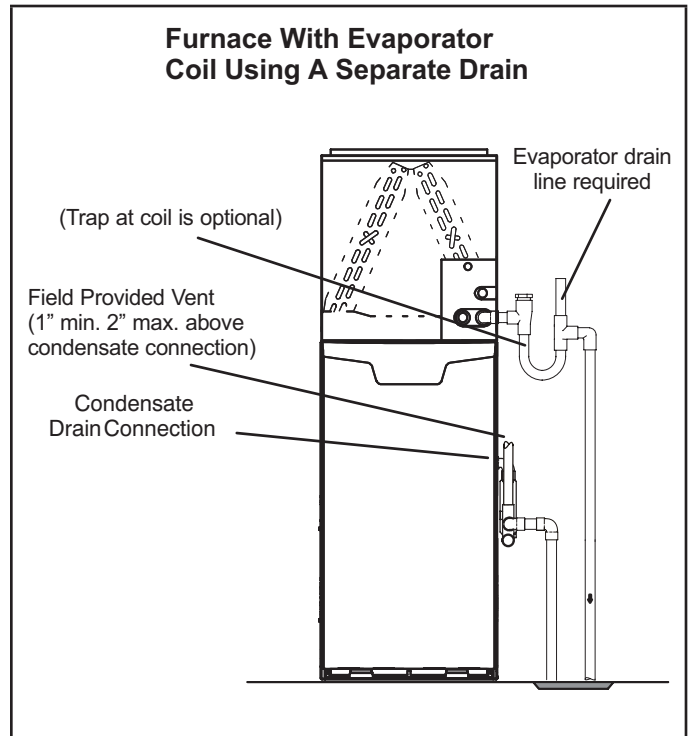
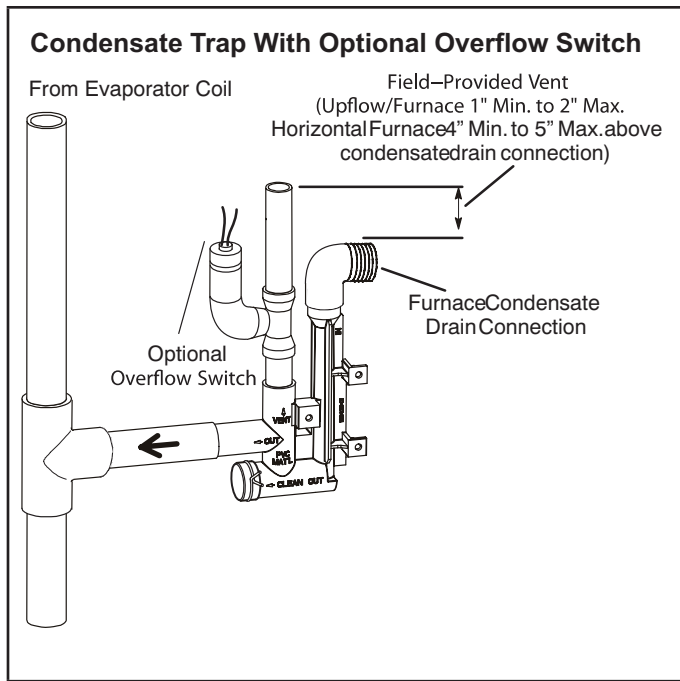
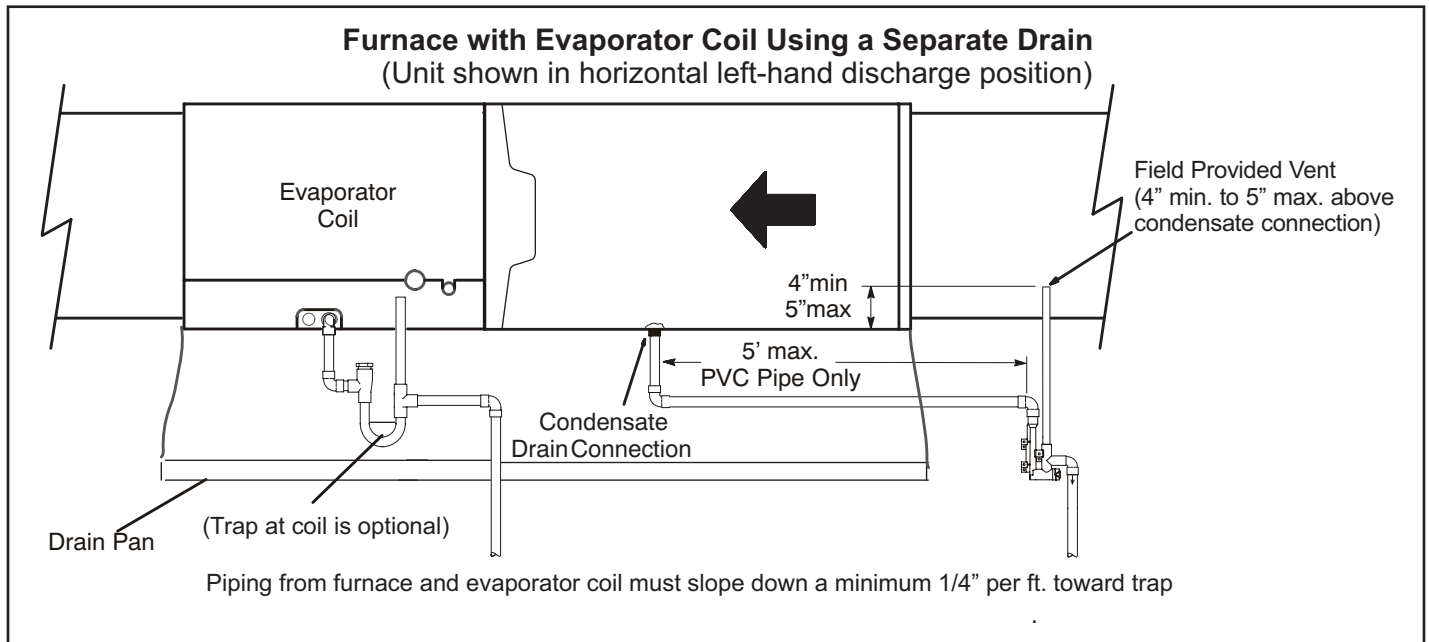
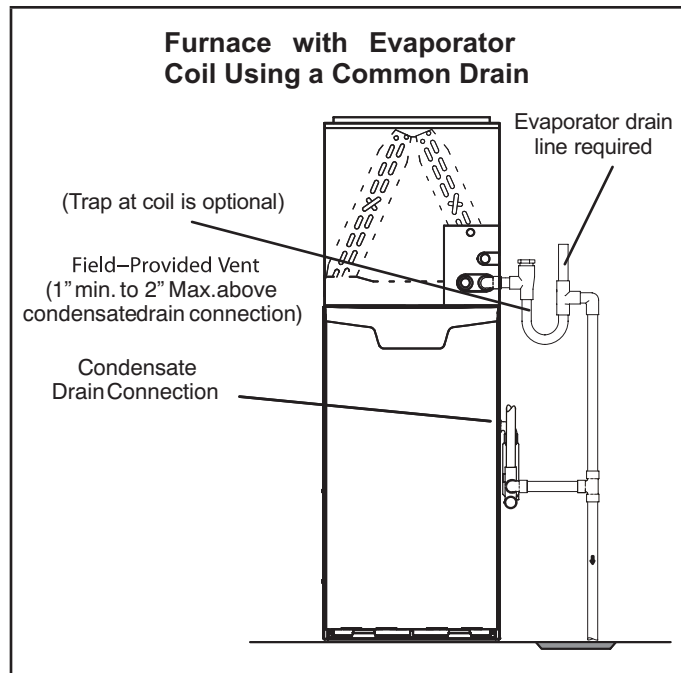

FIGURE 46
FIGURE 47
FIGURE 48
FIGURE 49
- 5 - FIGURE 46 and FIGURE 48 show the furnace and evaporator coil using a separate drain. If necessary the condensate line from the furnace and evaporator coil can drain together. See FIGURE 47, FIGURE 49 and FIGURE 50. **Upflow furnace** (FIGURE 49) - In upflow furnace applications the field provided vent must be a minimum 1" to a maximum 2" length above the condensate drain outlet connection. Any length above 2" may result in a flooded heat exchanger if the combined primary drain line were to become restricted.